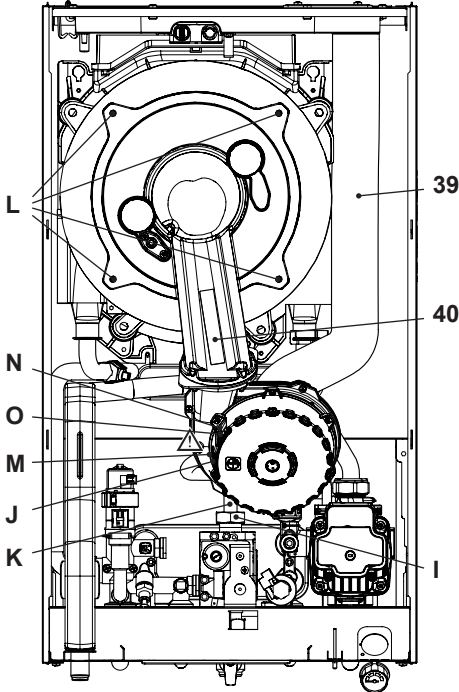

Figure 9.6
Removing the burner fan unit 40 in Figure 9.6.
- Disconnect the air suction pipe 39 (Figure 9.6).
- Insert a flat screwdriver in the recess J of the connector M and pry it downwards; at the same time disconnect the connector M by pulling it towards the front (Figure 9.6).
connector (Figure 9.6).
- Loosen the nuts L and remove the fan burner unit 40 (Figure 9.6).